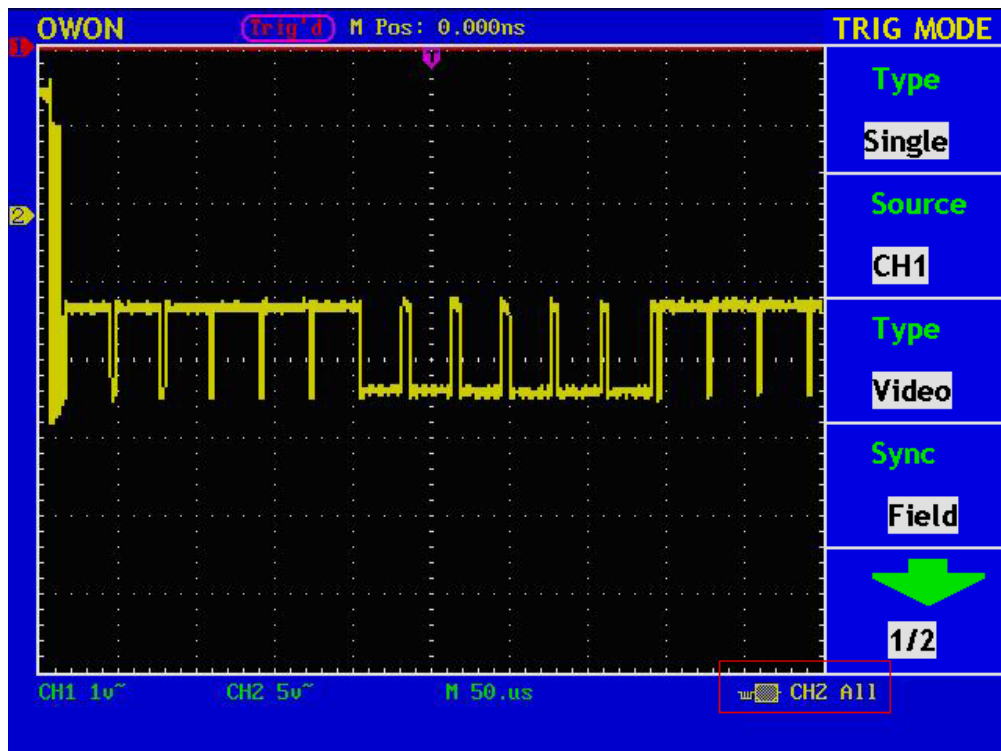

Fig.38 Wave Form Triggered in the Video Field
5. Press the F4 menu selection button and choose Field for Sync. The screen display is shown as Fig.38.